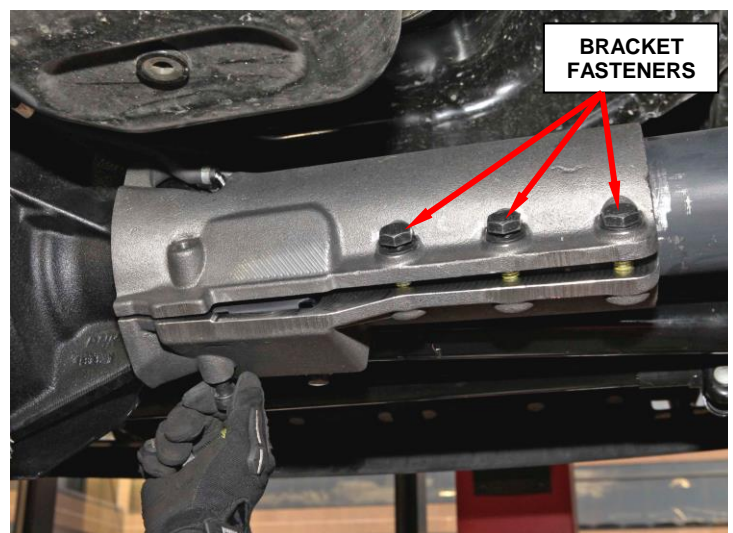

Figure 11 – Install All Bracket Fasteners
e. Install (hand tight) the eight bracket fasteners with washers (Figure 11).